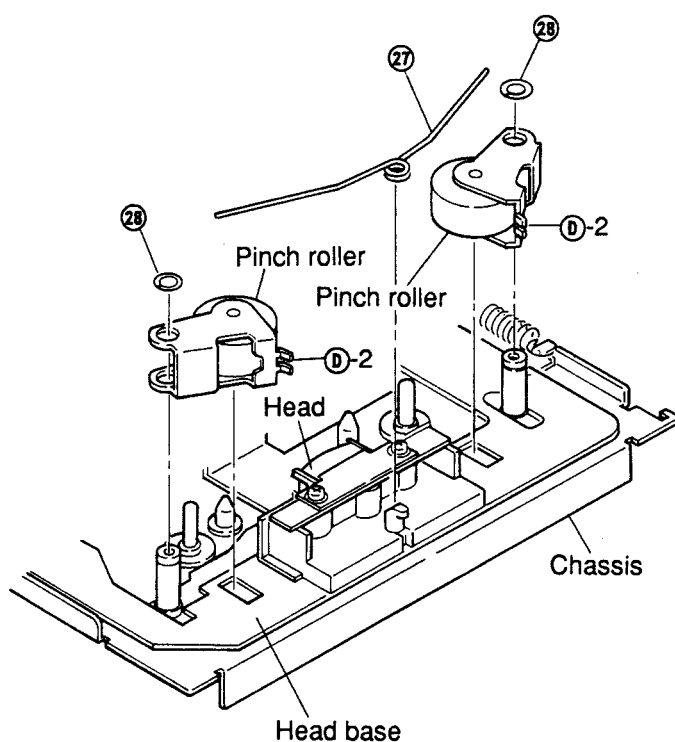

Figure 20
- (1) Remove pinch roller spring ②⑦ as shown in Figure 20.
- (2) Remove M3.1 lock washers ②⑧ and remove the pinch roller as shown in Figure 20.
- (3) Mount the pinch rollers following the removal steps in the reverse order.
Apply insulation coating to the position ①-2 of the pinch roller as shown in Figure 20.